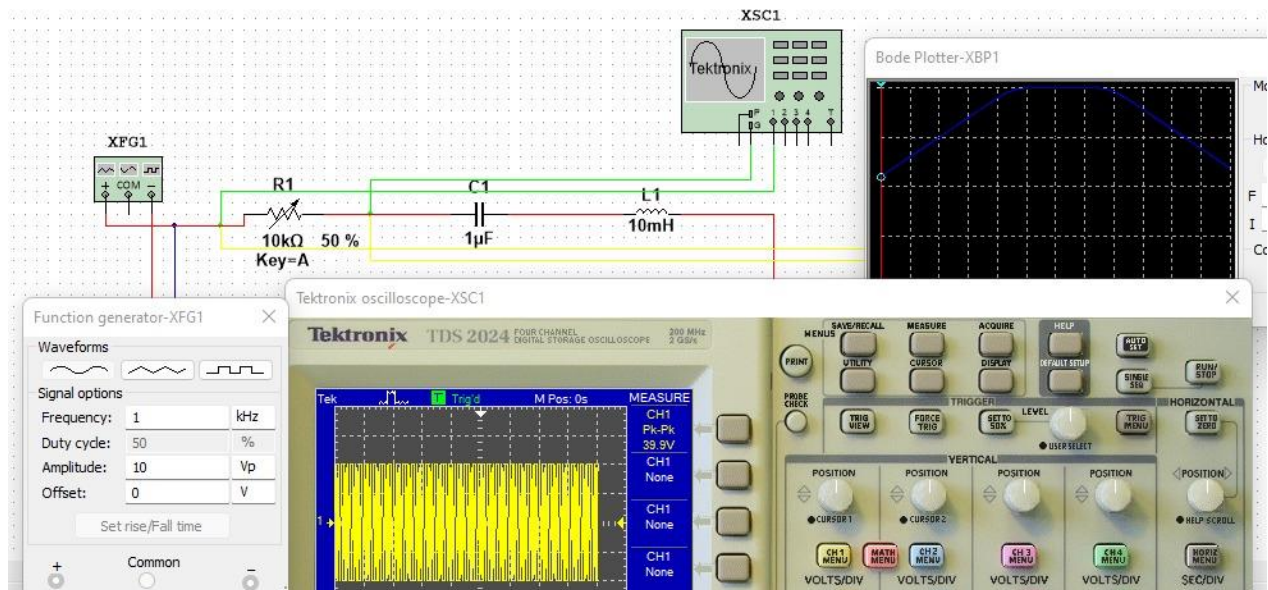

Figure 5: The Output and The Bode Plot at $5k\Omega$
- In the second part, we used $5k\Omega$ for the potentiometer, and we got the output and the bode plot as shown in **Figure 5**.